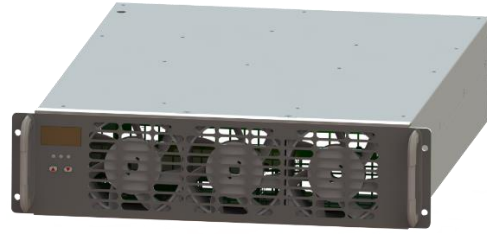

Figure 5.10. Appearance of the charging module
1. Unpack the power module (fig. 5.10).